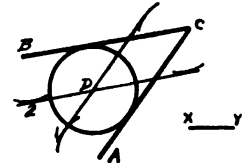

Fig. 56.
**Problem 8.** To draw an arc of a given radius x y tangent to both sides of a given angle, ACB (Fig. 56). Draw two lines, 1 and 2, each parallel to the given sides BC and AC of the given angle and the given distance away. Where these lines, 1 and 2 intersect at D is the center of the required circle. **Note:**—This arc, which is called a fillet, is used a great deal in machine design so that the method of drawing should be well learned.